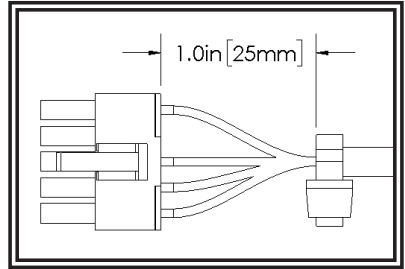

Figure 2
7. Place zip-tie 1.0" from base of the connectors shown in Figure 2. Zip-tie must not slide on cord.